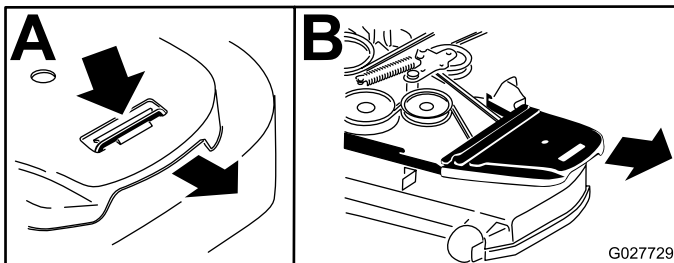

Figure 57
7. Remove the belt covers (Figure 57).